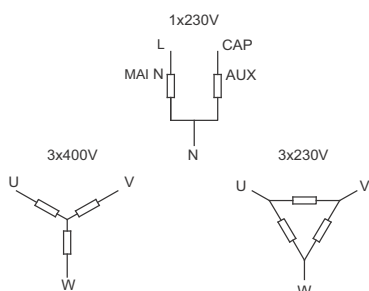

Fig. 21 Example of windings
- For measuring points, see fig. 21. Measure the motor side. For measuring values, see the table below.